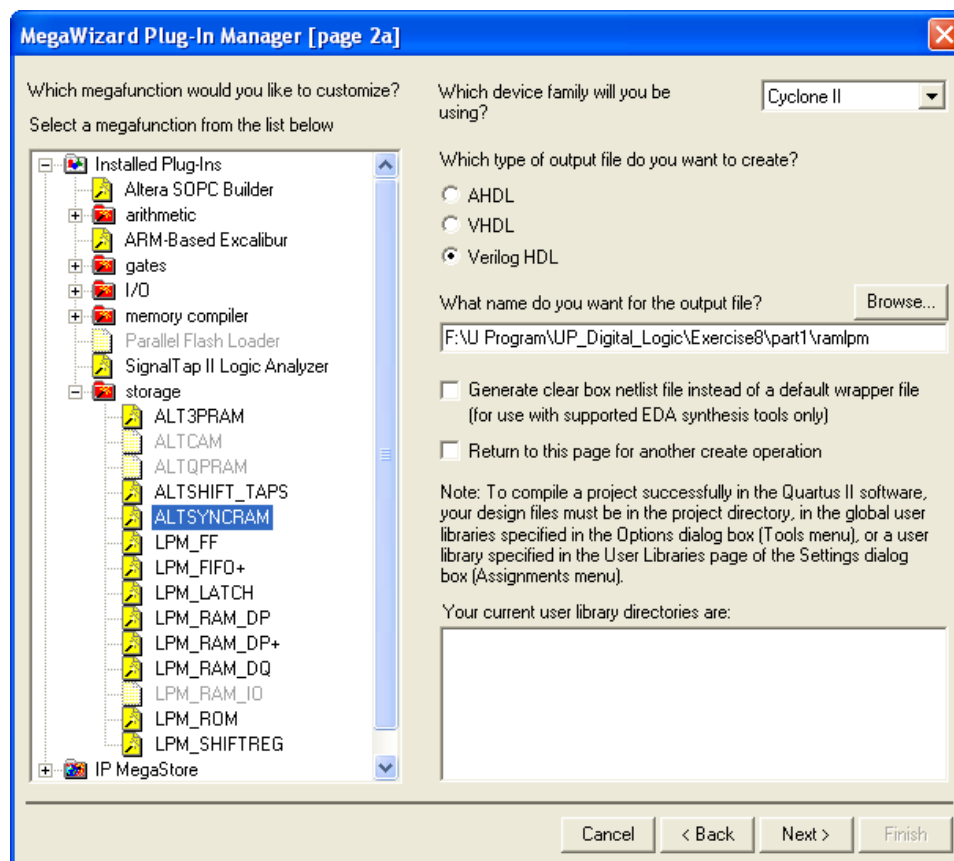
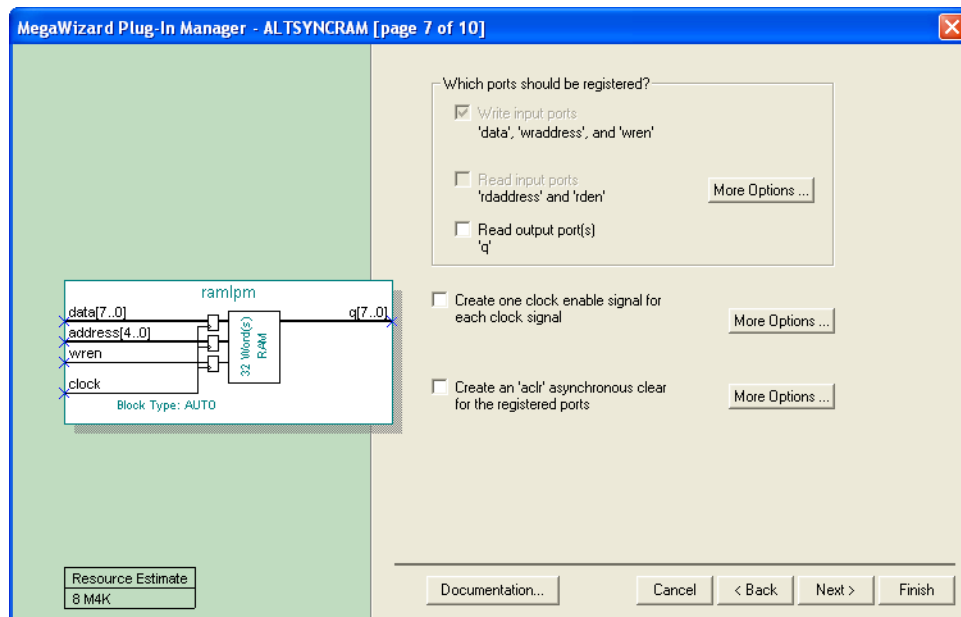

Figure 2. Choosing the *altsyncram* LPM.
Figure 3. Configuring input and output ports on the *altsyncram* LPM.
2. You can learn how the MegaWizard Plug-in Manager is used to generate a desired LPM module by reading the tutorial *Using Library Modules in Verilog Designs*. This tutorial is provided in the University Program section of Altera's web site. In the first screen of the MegaWizard Plug-in Manager choose the *altsyncram* LPM, which is found under the **storage** category. As indicated in Figure 2, select Verilog HDL as the type of output file to create, and give the file the name *ramlpm.v*. On the next page of the Wizard specify a memory size of 32 eight-bit words, and select M4K as the type of RAM block. Advance to the subsequent page and accept the default settings to use a single clock for the RAM's registers, and then advance again to the page shown in Figure 3. On this page *deselect* the setting called Read output port(s) under the category Which ports should be registered?. This setting creates a RAM module that matches the structure in Figure 1b, with registered input ports and unregistered output ports. Accept defaults for the rest of the settings in the Wizard, and then instantiate in your top-level Verilog file the module generated in *ramlpm.v*. Include appropriate input and output signals in your Verilog code for the memory ports given in Figure 1b.